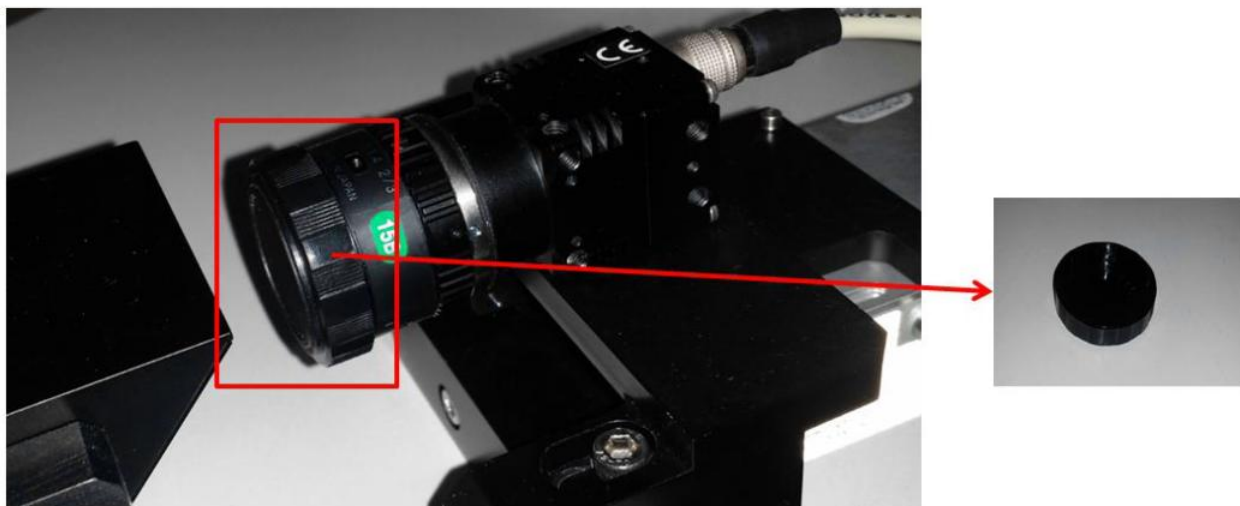

Figure 7 Camera Lens Cover
2. Remove the camera lens cover as below Figure 7.